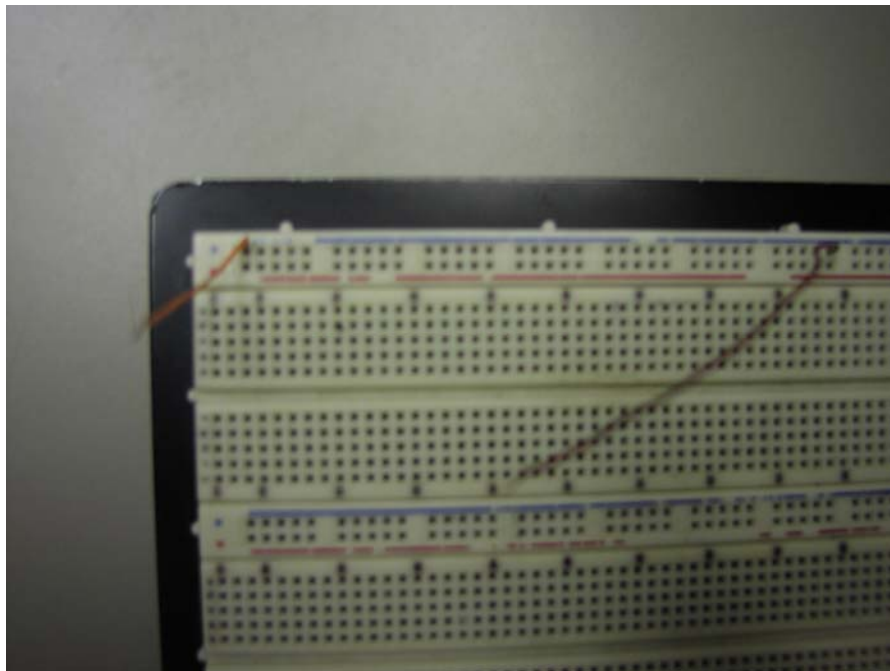

Figure 15
c. Repeat part (a) for figure 15.